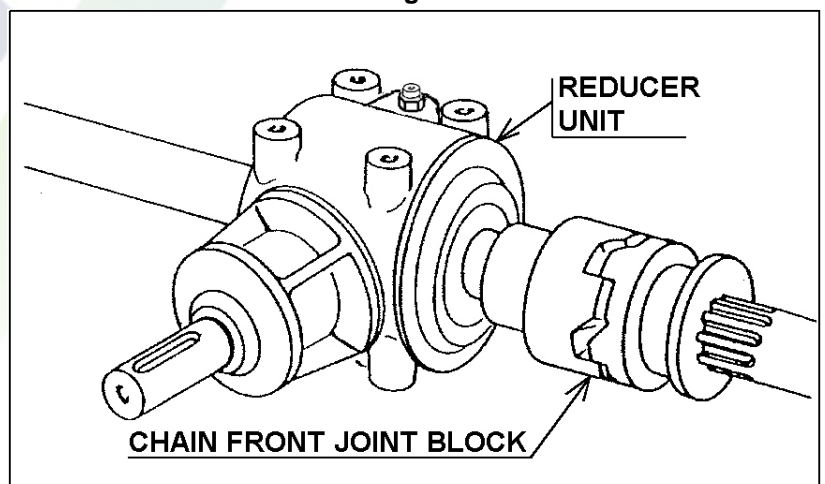

Fig. 8
8. A special mechanism / chain front joint block (Fig. 8) allows to interrupt the movement of the main chain when opening the rear door. It is advisable to grease this mechanism every 10 working hours (every day).
*It is possible to open and then close the rear door without stopping the P.T.O., taking care of lessening the number of P.T.O. rears when the rear door is closing in order to avoid excessive stress on the chain front joint block (fig.8).
9. To adjust the pressure of the bale, position lever E (fig. 8/A , detail B) from 1 (min. density) to 7 (max. density).
For further adjustment of the pressure of the bale, shorten or lengthen spring no. 4 Fig. 8/A within the limits from 1 to 3 (Fig. 8/A - detail "C") using rod 10 with its nuts.